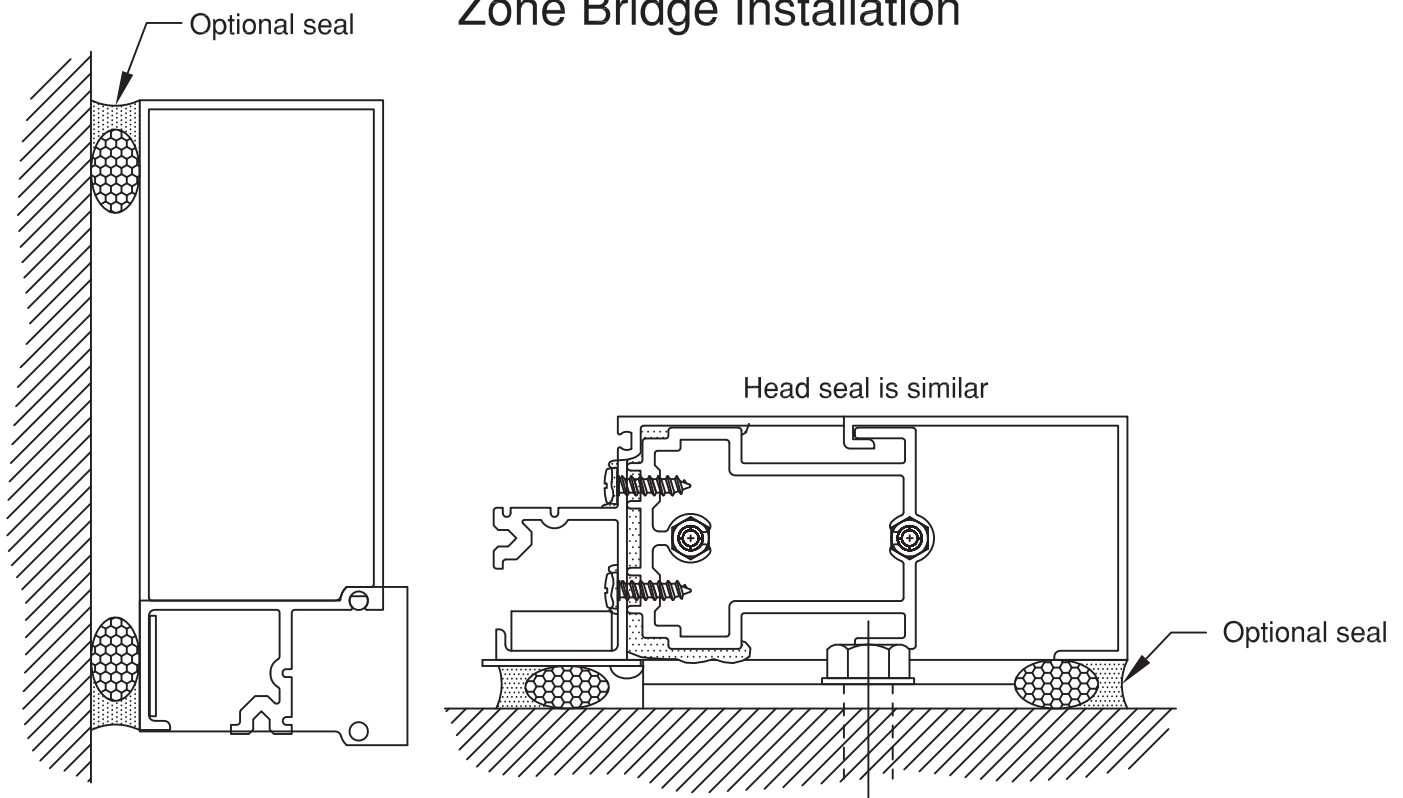

Figure 11
- 2.6 When all framing members are installed, apply the perimeter seal. **SEE FIGURE 11.** The interior perimeter seal is not required for system performance, but can be installed for cosmetic purposes. Perimeter sealing must be completed prior to glazing.